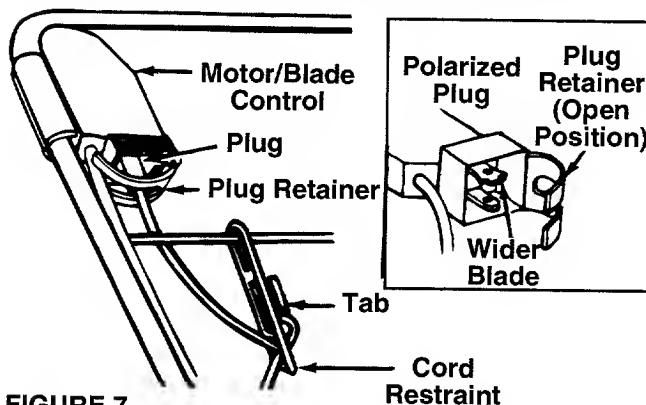

FIGURE 7.
- Attach extension cord to the cord restraint as follows. Form a small loop in the extension cord. Allow enough excess cord to make the connection to the motor/blade control (approximately 20 inches). Slip the loop through the slot on the bottom of the cord restraint, and up over the tab, to prevent disconnection from the motor/blade control during operation. Leave enough cord to allow the cord restraint to move freely from side to side. See figure 7.
- To attach extension cord to the mower, swing open the spring-loaded plug retainer located beneath the motor/blade control. Connect the plug on the extension cord fully onto the plug on the mower. The mower is equipped with a polarized AC power plug (one blade of the plug is wider than the other), which will fit into the plug on the extension cord only one way. See figure 7, inset. If unable to make a full connection, try reversing the plug on the extension cord. Should the plugs still fail to fit, contact your service dealer for assistance. Do not defeat the safety purpose of the polarized plug.